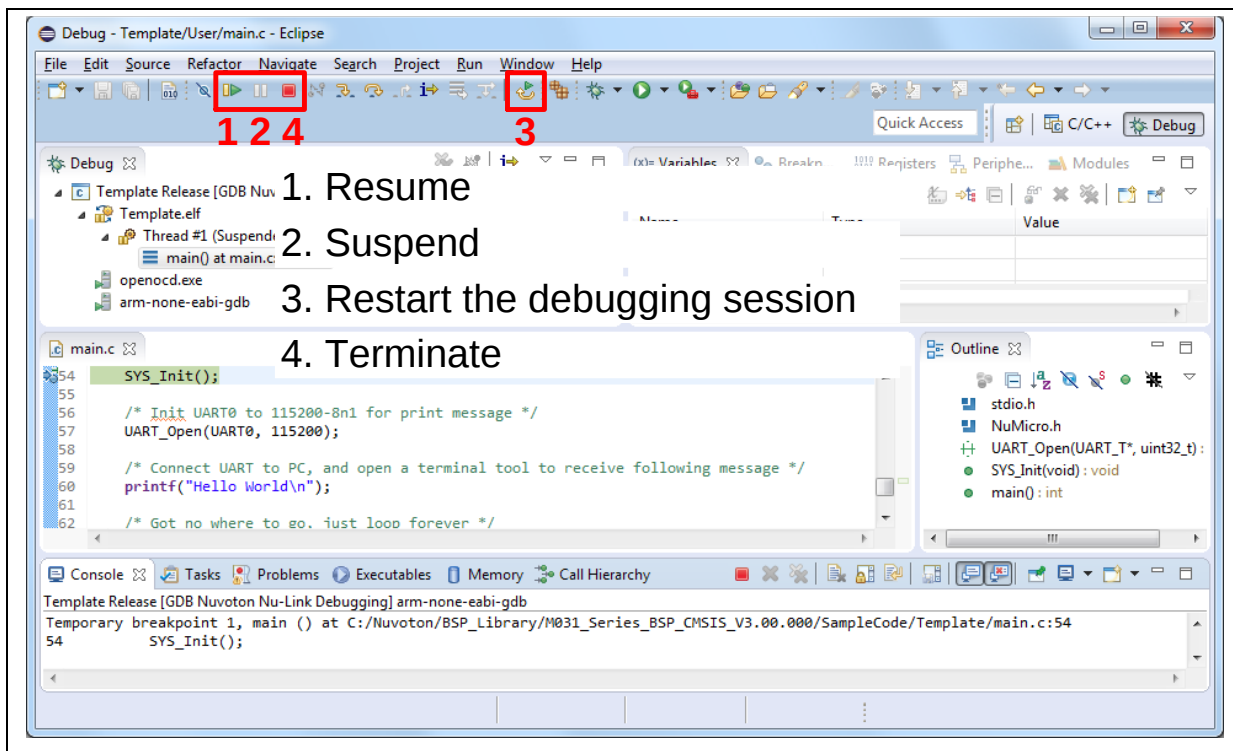
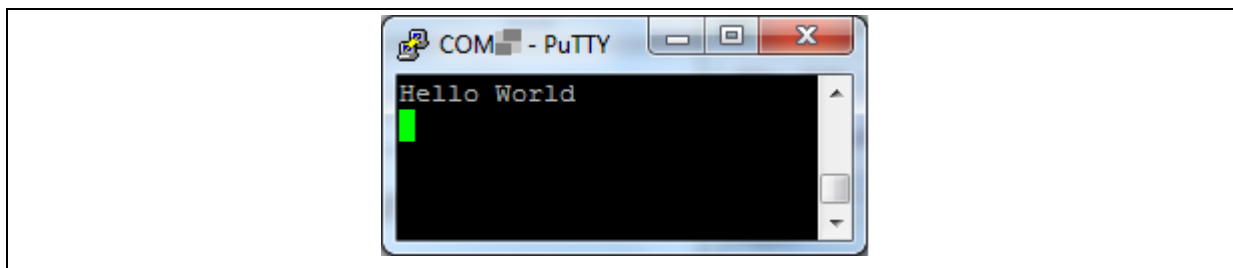

Figure 3-28 NuEclipse Debug Mode
Figure 3-29 Debug Message on Serial Port Terminal Windows
6. Figure 3-28 shows the debug mode under NuEclipse. Click “Resume” and the debug message will be printed out as shown in Figure 3-29. User can debug the project under debug mode by checking source code, assembly language, peripherals’ registers, and setting breakpoint, step run, value monitor, etc. For more information about how to use NuEclipse, please refer to the NuEclipse User Manual.